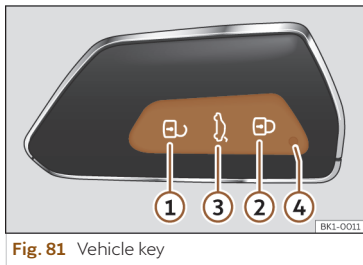

Fig. 81 Vehicle key
Key to the >>> Fig. 81.
When a button is pressed briefly on the vehicle key, the control lamp ④ >>> Fig. 81 flashes once briefly, but if pressed for a long period of time, it will flash several times, for example, in the convenience opening.